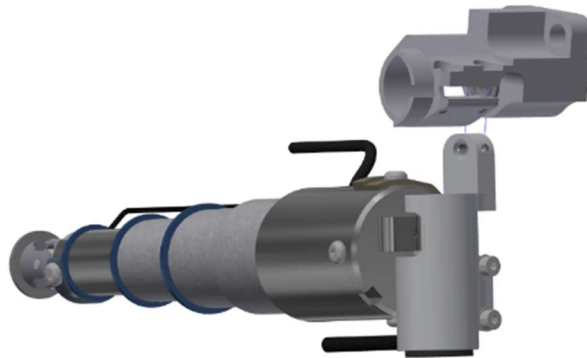

Figure 5-49. Upper thorax IR-TRACC Arm Mounting Bracket
- 5.3.13 Insert the IR-TRACC Base (474-3754-1) onto the IR-TRACC Arm Mounting Bracket (Figure 5-49).